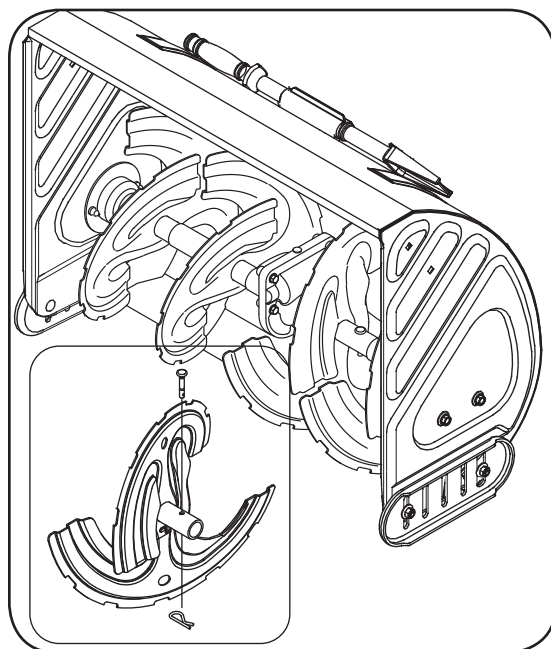

Figure 19
The augers are secured to the spiral shaft with two shear pins and cotter pins. See Figure 19. If you hit a foreign object or ice jam, the snow thrower is designed so that the pins will shear.
2. Replace the pins if needed. Two replacement shear pins and cotter pins have been provided with the snow thrower. Spray an oil lubricant into shaft before inserting new pins and securing with new cotter pins. See Figure 19.